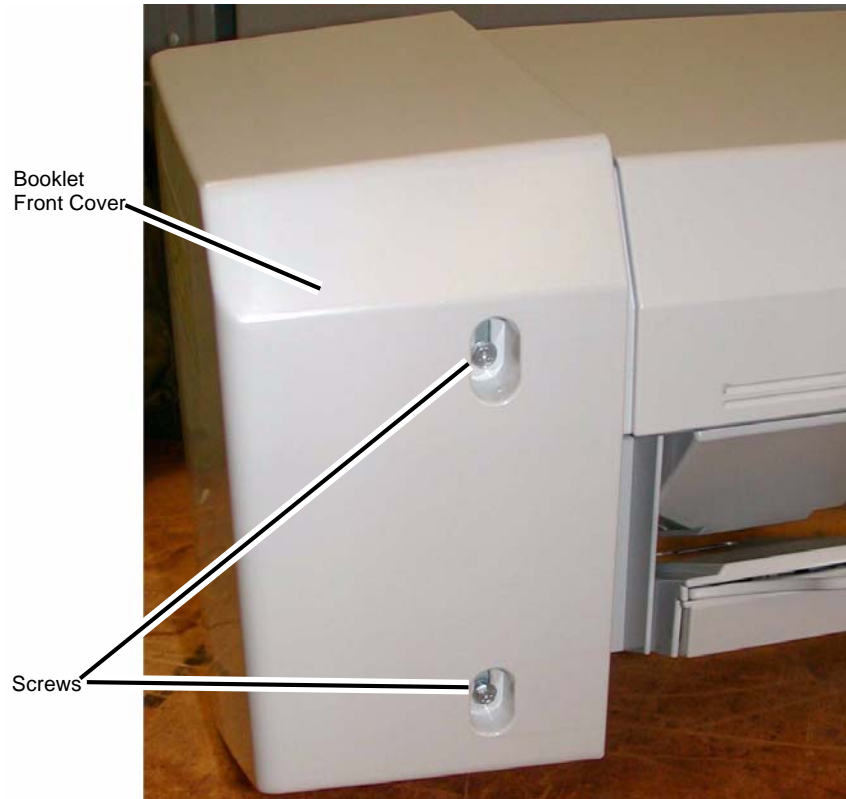

Figure 2 Removing the Booklet Front Cover
- b. Remove the Screws (2) (Figure 2)